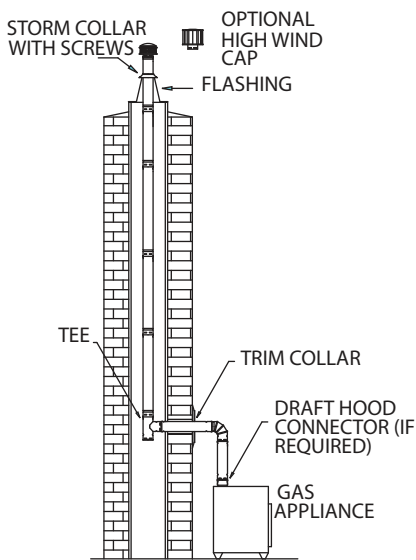

Figure 30
**1. Description.** A masonry chimney should be relined with B-Vent when venting a Category I gas appliance, such as a gas fireplace insert or freestanding gas stove, or to improve the venting and reduce condensation of existing gas appliances which are currently venting into the masonry chimney. These instructions encompass two general configurations: (1) A gas fireplace situated inside an existing masonry fireplace (**Figure 24**) or (2), a freestanding gas appliance venting into an existing masonry chimney. (**Figure 30**)
followed, particularly in regards to distances from combustible surfaces. Refer to **Figure 30**.
(c). **Tee.** A Tee is installed at the bottom end of the assembled vertical Pipe Sections, as shown in **Figure 30**. The Tee has a removable Tee Cap at the bottom, for cleaning and condensate removal. If the configuration of the building permits it, a clean-out access gate is recommended.
to obtain a specific location for the appliance. Make a mark on the horizontal Pipe Section flush with the vertical face of the masonry, for referencing the vertical position. Slip a Pipe Collar over the horizontal Pipe Section and install the remaining fittings as shown in Figure 30. A minimum of 12 inches of connector rise is required.